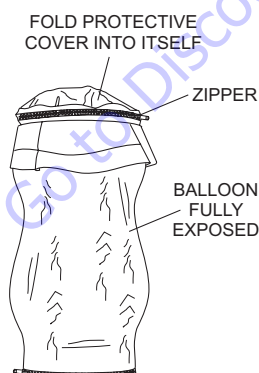

Figure 17. Folding Balloon Cover
3. Fold the balloon cover into itself and zip it up. See Figure 17.